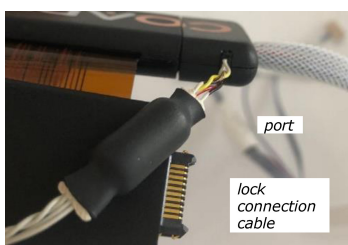
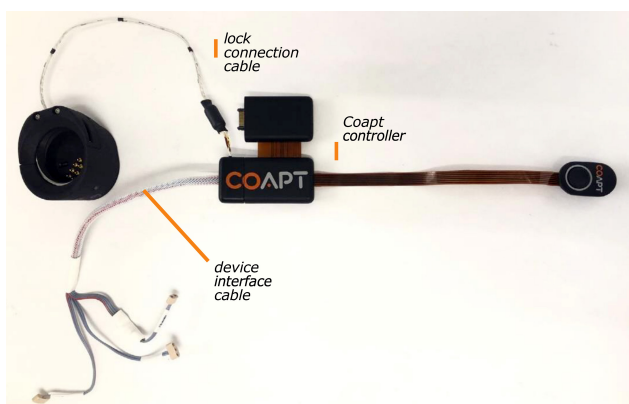

Figure 22
Figure 23
- b. Attach the lock connection cable to the port shown in Step 3a (Figure 22). The system should now be assembled as shown in Figure 23.